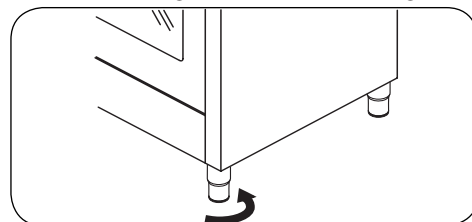

fig. 4
- Adjustable feet, to be fitted to the appliance, which allow the height of the cooker to be aligned with other kitchen furniture (fig. 4).